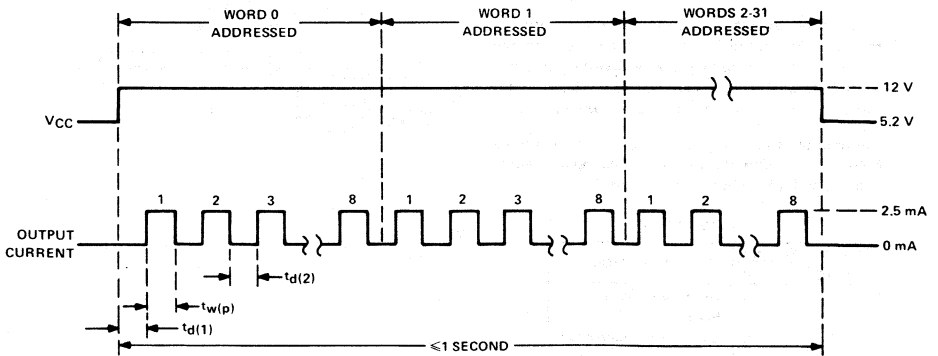

FIGURE 4—TIMING DIAGRAM FOR AUTOMATIC PROGRAMMING
3. After a delay of 100 μs minimum, 1 ms maximum, apply a 2.5-mA current pulse to the output corresponding to the first bit to be programmed to a high. This output pulse is maintained between 0.5 and 1 ms. See Figure 4.